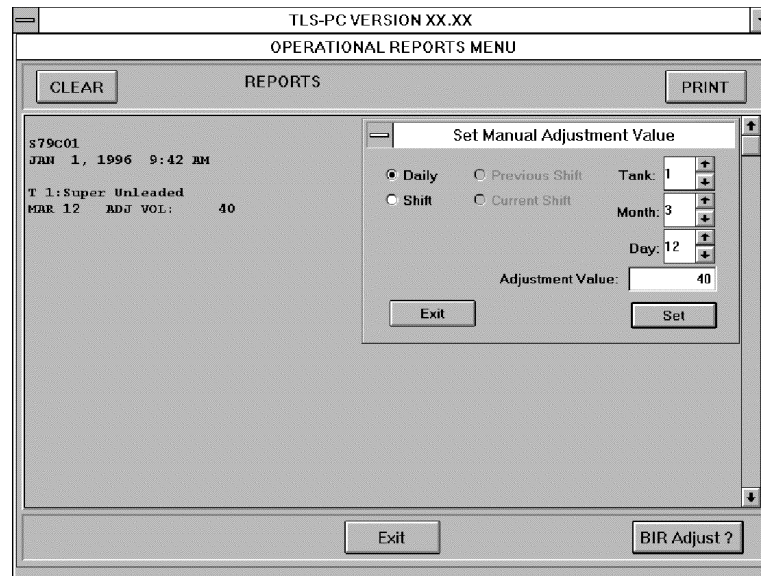

Figure 32. BIR Manual Adjustment Entered
4. Click on the **SET** button to enter the BIR adjustment value into the system. The current date and time; and the tank number, product label, adjustment closing date, and adjusted volume appears on the REPORTS screen [Figure 32].